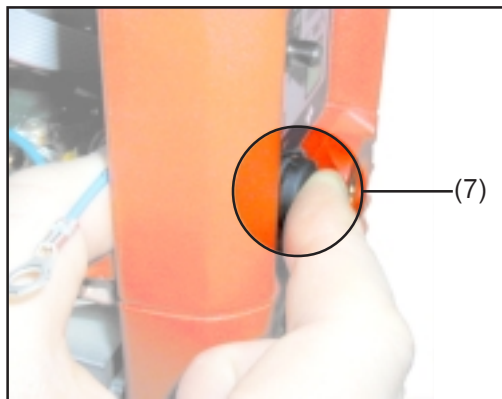

Fig. 10
- TP 1500 RC / 1500 TIG: Apply a thin layer of lubricant to the seal of the remote-control socket (7) (Fig. 10)
- TP 1500 RC / 1500 TIG: Apply gentle pressure to the seal of the remote-control socket (7), to prevent it being forced out when you press on the FPA15 board
- Snap the FPA15 board (5) onto the rear alignment pin first